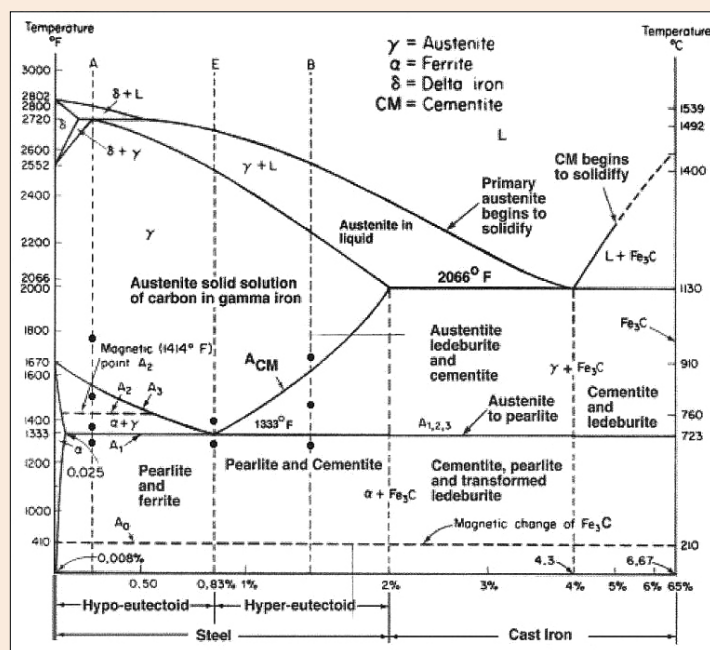

Figure 1: Iron – Carbon Equilibrium diagram
Figure 1: Change in length as a function of temperature for (a) hot-rolled 38MnSiVS5 steel and (b) hot-rolled 4140 steel. Both steels were heated to 1,000°C at 10°C/s, control-cooled to 500°C at 1°C/s, and then quenched to room temperature.
Figure 1 shows thermal expansion data for two steels heat-treated identically in a dilatometer. Although a significant amount of quantitative data can be extracted for these two graphs, they will be discussed and compared qualitatively in the interest of brevity. Figure 1a shows a medium-carbon vanadium (V) microalloyed steel, 38MnSiVS5, while Figure 1b shows a common medium-carbon chromium-molybdenum low alloy steel, 4140. Both steels were heated relatively quickly (10°C/s) to a high austenitizing temperature (1,000°C) then control-cooled at 1°C/s to 500°C before quenching to room temperature. Arrows shown in the graphs specify data recorded either during heating or cooling. In general, materials exhibit a near-linear increase in length during heating and decrease in length during cooling. Significant deviation from this near-linear behavior indicates a phase transformation has started. Subsequently, when a material returns to near-linear expansion during heating or contraction during cooling, the phase transformation is approaching completion. In Figures 1a and 1b, the steels behave similarly during heating and dissimilarly during cooling. During heating, they transform from a mixture of ferrite and cementite (Fe_3C) to austenite similarly due to their comparable carbon contents and starting microstructures. During cooling, the two steels behave dissimilarly due to differences in alloy content resulting in the 4140 steel being more hardenable and thus transforming at a lower temperature. The 38MnSiVS5 steel reverses the on-heating phase transformation at a relatively high temperature resulting in no net dimensional change from the start to the end of the heat treatment. The 4140 steel transforms at a much lower temperature resulting in martensite forming from austenite instead of a mixture of ferrite and cementite. The difference between the starting and ending microstructures of the heat-treated 4140 steel results in a size change measured as an increase in final length of the dilatometry sample. When this size change occurs uniformly in a component it can be easily accounted for in finishing stock changes;
lattice can hold, i.e. at 2,095°F, austenite will allow 2.03 percent carbon to diffuse into the lattice. As the temperature drops, the quantity of carbon the FCC lattice can hold also drops. For example, at 1,333°F, austenite will allow 0.80 percent carbon to fill the FCC spaces. As carbon saturates the austenite at a given temperature to the right of the Acm line on Figure 1, the iron-carbon equilibrium (Fe-C) diagram, it will precipitate as cementite or iron carbide (Fe_3C) a very hard and brittle intermetallic compound composed of 6.67 percent carbon and 93.3 percent iron.
Practically speaking, the Fe-C diagram (Figure 1) is an isothermal — or time, (time for carbon to reach an equilibrium phase in iron) temperature, transformation (TTT) diagram — for iron and carbon only with no alloying elements. To find the microstructure for a particular carbon concentration, draw a line vertically up from 1-percent carbon until it intersects the Acm line. Then draw a horizontal line left to find the temperature. That temperature is